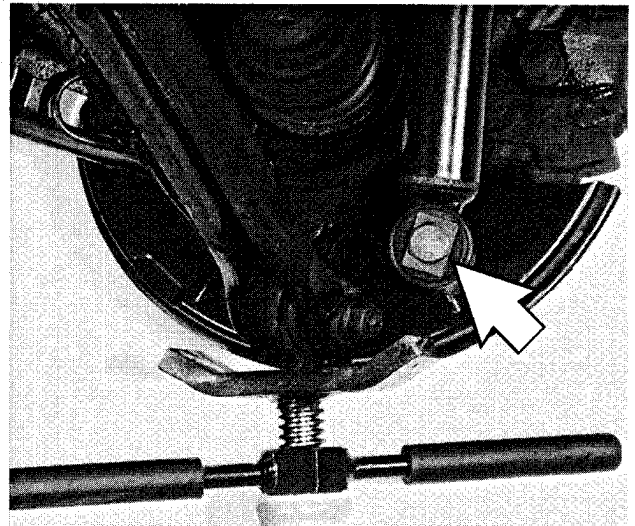

Fig. 4. Support rear trailing arm from below before removing upper or lower (arrow) shock mounting.
4. Support trailing arm from below using a transmission jack or equivalent. See Fig. 4. Remove shock absorber upper mounting nuts.